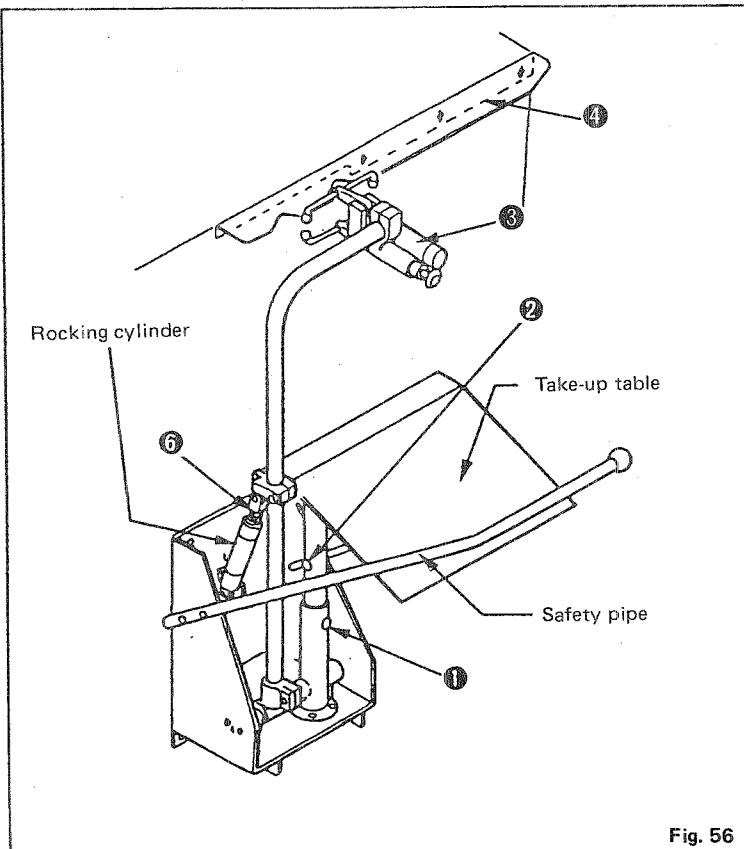

Fig. 56
- ① The corner knife comes down. Then the material clamp cylinder actuates.
- ② The grasping stacker catches the material when the front travel end of the material clamp cylinder is reached.
- ③ The rocking cylinder actuates and carries a workpiece on to the take-up table.
- ④ The material grasping mechanism is released, and the binder returns to the start position of its oscillating action.
Loosen set bolt ① and adjust the height of the table. Loosen set bolt ② and adjust the inclination of the table. Adjust the height and inclination of the take-up table according to the size of the workpiece to be stacked. (See Fig. 56.)